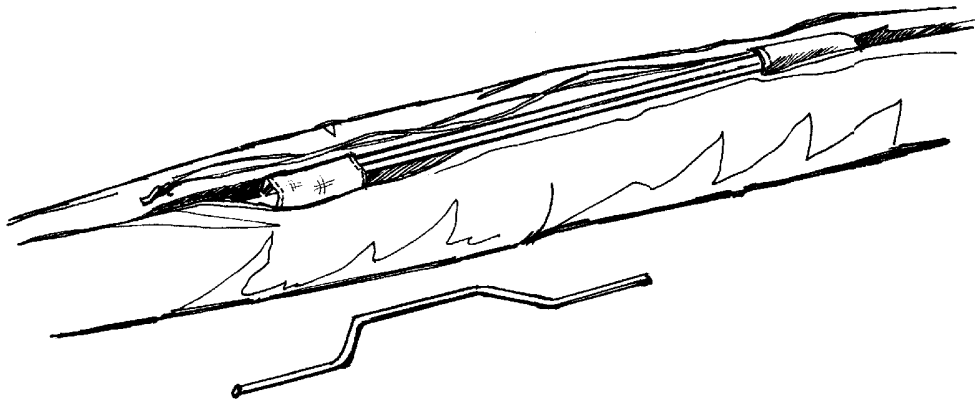

Fig. 46
4.1.9. Place the spreader bar of the hang loop between the uprights. Cover the control bar/keel tube junction by a protective padding (Fig.46). Bring all wires forward along tubes and place uprights inside the folded sail. Zip the zipper.